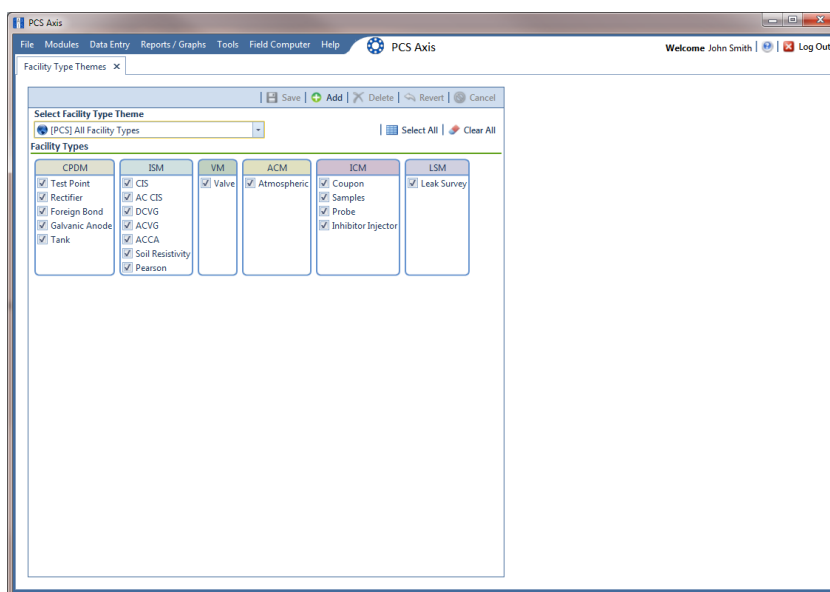

Figure 15-3. Facility Type Themes Management
- 1 If the *Facility Type Themes* window is not open, click **Tools > Facility Type Themes** (Figure 15-3).